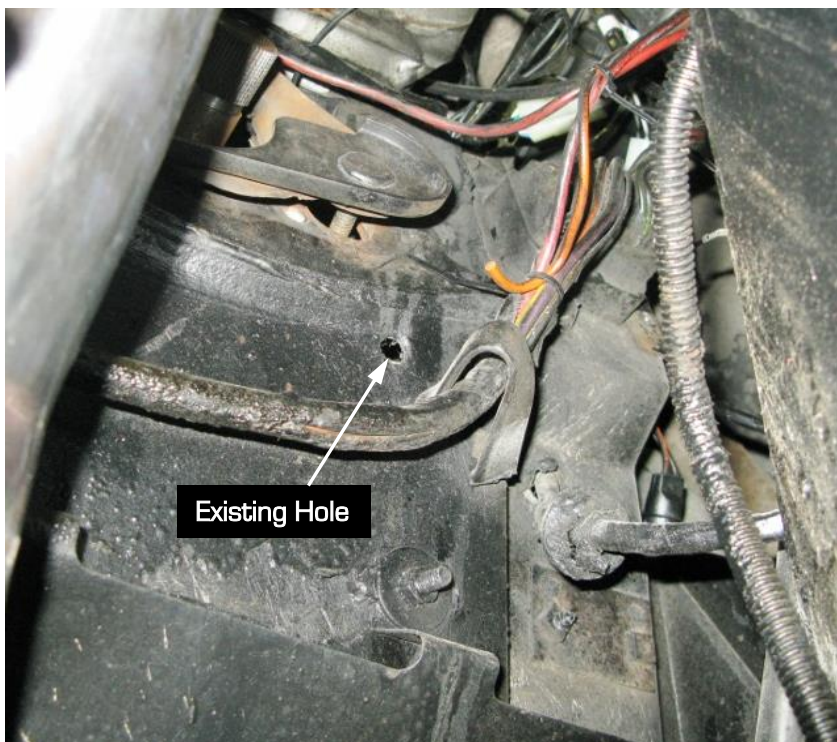

Figure 17 - Route Headlight Harness
18. Drill out the existing hole using a Uni-bit or drill bit up to 1-1/8" (Figure 17). The new headlight harness can be routed through this hole or you can drill a new hole on the side of the fuse box area. Using the included firewall grommet to protect the wiring, pass the headlight motor connectors through the firewall.